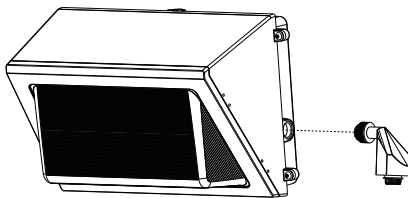

Fig. 18
3. Insert the CEA-RDB into the KO hole on the side of the luminaire. (See Fig. 18)